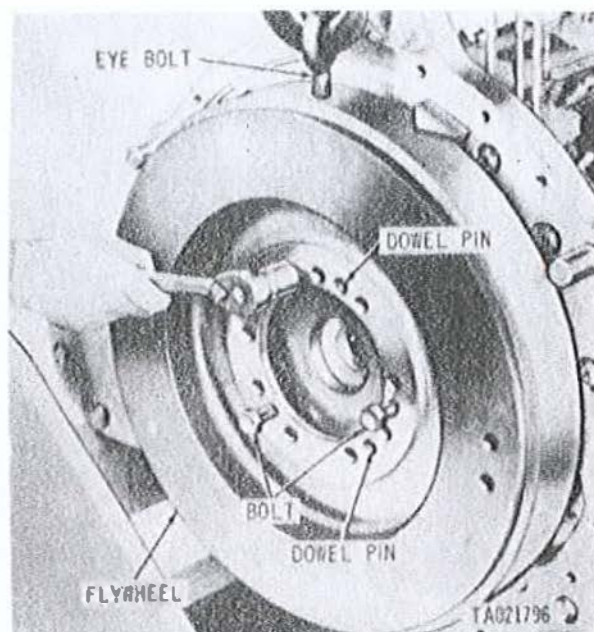

Figure 3-118. Removing flywheel, model AVDS-1790-2C and AVDS-1790-2D engines.
b. Position flywheel to locate lifting eye bolt hole at top center. Install three 9/16 x 1-3/4 in. bolts (fig. 3-118) from transmission drive spur gear and flywheel into flywheel puller holes. Alternately tighten bolts until flywheel is far enough from crankshaft dowel pins to permit installation of lifting eye bolt. Install lifting eye bolt Part No. MS51937-7.